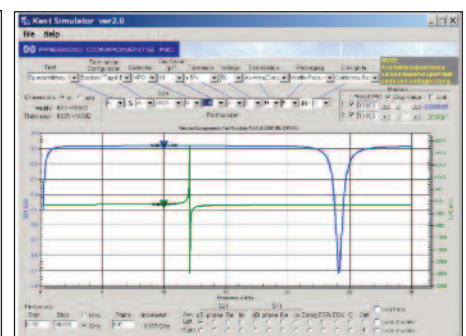

Fig. 6. Modeled S21 and Ceff of part
- Excellent low loss performance for high Q applications as demonstrated with a 10 pF NPO capacitor shown in Fig. 6 below.
When minimum loss is required, e.g. a low noise circuit, a high Q capacitor with Class I dielectric (NPQ or NPO) is recommended. Any parallel resonance frequency of the capacitor should be outside of the use frequency band. The best capacitor choice puts the series resonance at the band center (approximately $f_0/2$). See Fig. 6.